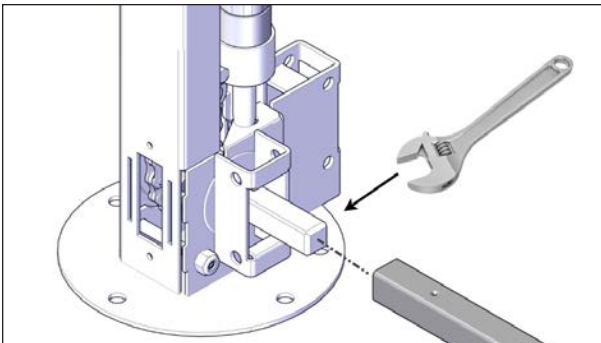

FIGURE 36: DRIVE SHAFT INSTALLATION
9. Hold the left-hand non-motor-side jack assembly upright and in line with the left drive shaft. Use a 3/4" adjustable wrench to carefully rotate the square shaft of the jack to align with the drive shaft, see Figure 36.